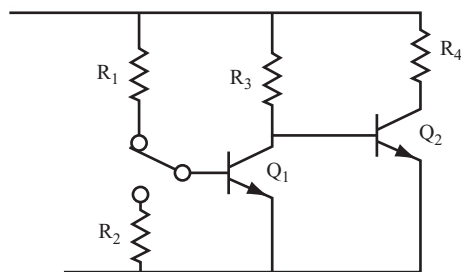

FIGURE 12.5
28. Using the circuit shown in Figure 12.5, find the values of  $R_1$ ,  $R_2$ , and  $R_3$  that can enable the switch to turn  $Q_2$  ON and OFF if  $V_S = 10$  volts,  $\beta_1 = 50$ ,  $\beta_2 = 20$ , and  $R_4 = 2.2 \text{ k}\Omega$ . \_\_\_\_\_
29. Again, using the circuit shown in Figure 12.5, find the values of  $R_1$ ,  $R_2$ , and  $R_3$  that can enable the switch to turn  $Q_2$  ON and OFF if  $V_S = 28$  volts,  $\beta_1 = 30$ ,  $\beta_2 = 10$ , and  $R_4 = 220 \Omega$ . \_\_\_\_\_